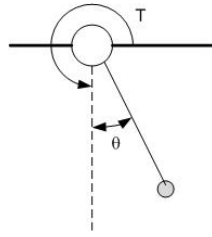

Figure 2: Pendulum.
3. Consider the pendulum shown in Fig. 2. The system consists of a ball of mass m located at the end of a massless rod with a length l . The moment of inertia of the pendulum about its pivot point is J , the viscous friction coefficient B and the applied torque is T . The rotated angle θ , which is the output variable and is taken as shown in Fig. 2.